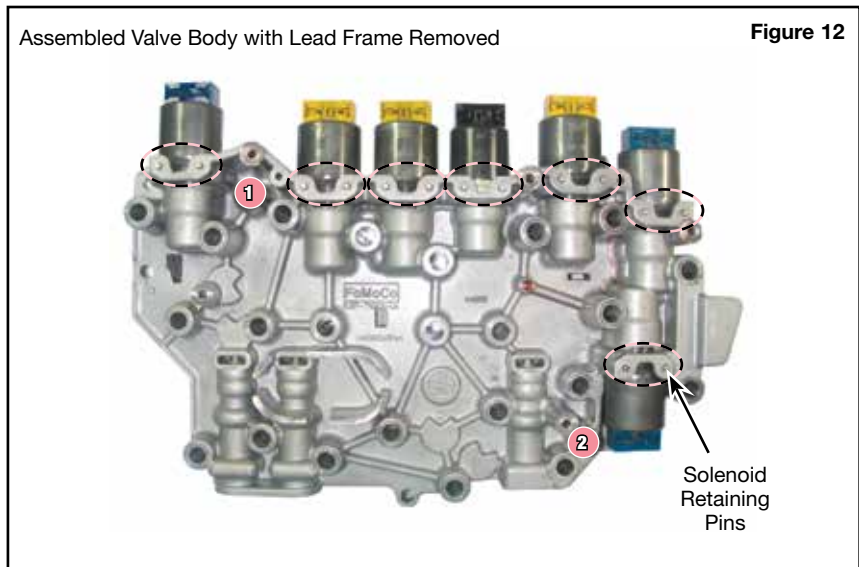

Figure 12
- b. There are 14 solenoid retaining pins (two per solenoid) that keep the solenoids in the casting. Handle the casting with care so these do not fall out and allow solenoids to come out and become mixed up (Figure 12).
- c. To remove solenoid body from valve body, remove two bolts (Figure 12).
- b. Bolt solenoid body to valve body with two bolts. Torque to 89 in-lb (Figure 12).